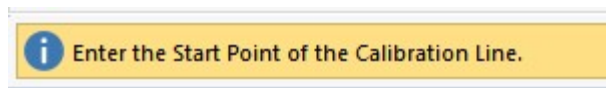

Figure 2.6-2 - Project Calibration Prompt
- The DWG will become visible in the model space and the program will prompt you to select the first point for calibration (**Figure 2.6-2**) in the **Message Bar**.